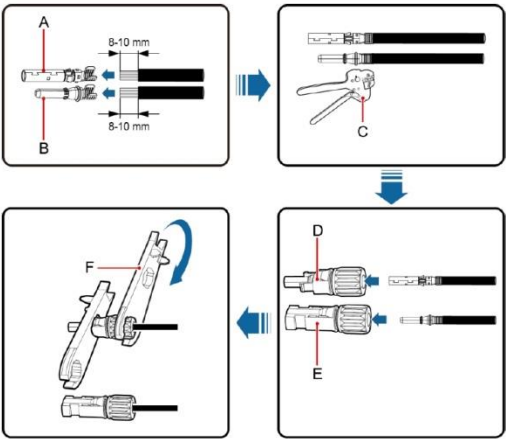

Fig 5.2 Connection between MC4 DC connector and PV string
(1) As shown in Fig 5.2, connect the output wire of the PV string to the DC connector of the inverter. Loosen the fastening nut of the connector; strip off the 15mm insulation layer of the DC cable, and use crimping pliers to press the standard metal terminal tightly. The tightening torque of the waterproof part at the tail is 2.5-3Nm. The wiring method of the positive and negative connectors is the same. Confirm that the positive and negative poles of the PV string correspond correctly to the positive and negative connectors ,then connect them firmly;